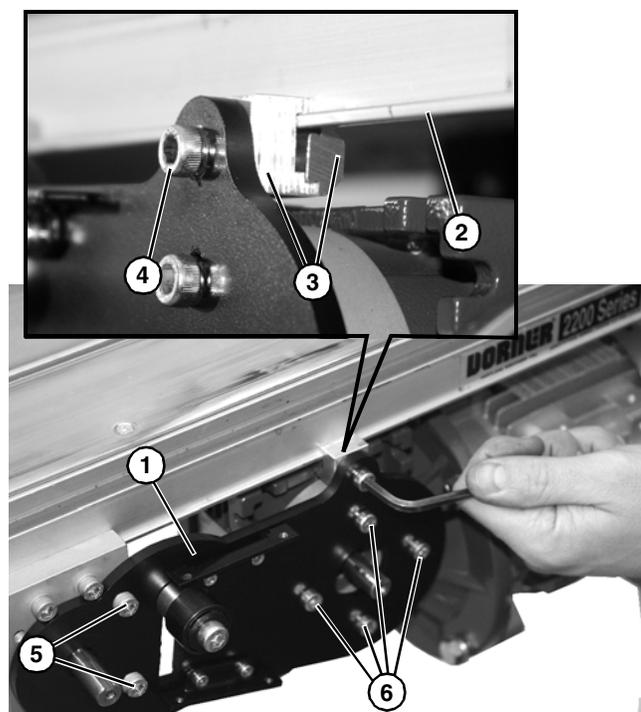

Figure 3
2. Install gearmotor and plate (**Figure 3, item 1**) onto conveyor frame channel (**Figure 3, item 2**) with retaining clip assembly (**Figure 3, item 3**) and socket head screw (**Figure 3, item 4**). Secure bottom with two socket head screws (**Figure 3, item 5**). Do not tighten screws at this time.
3. If required, change gearmotor position by removing four (4) screws (**Figure 3, item 6**). Rotate gearmotor to other position and replace screws. Tighten to 103 in-lb (12 Nm).